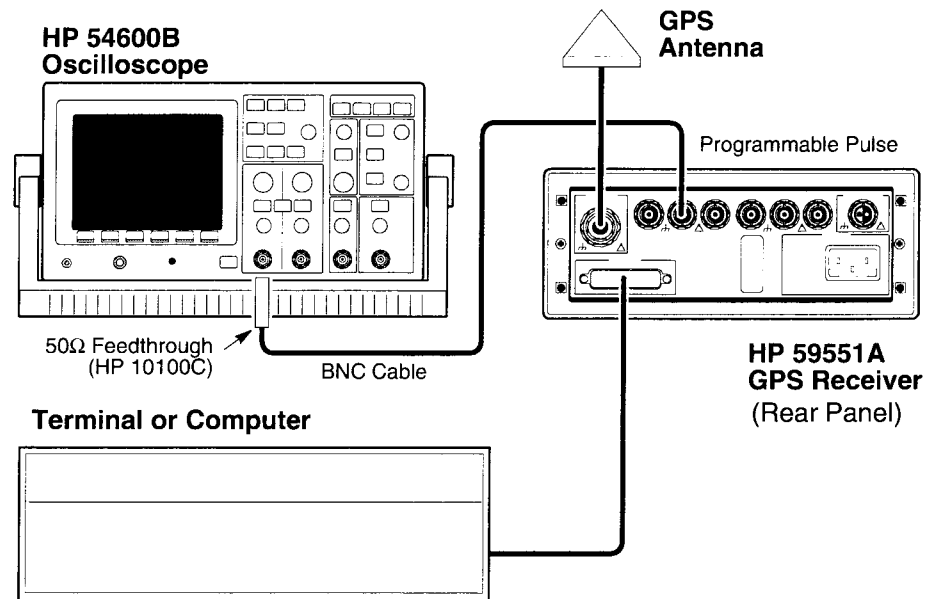

Figure D-5. HP 59551A Programmable Pulse Operational Verification Setup
- 5 Connect the oscilloscope to the rear-panel **Programmable Pulse** output as shown in Figure D-5.